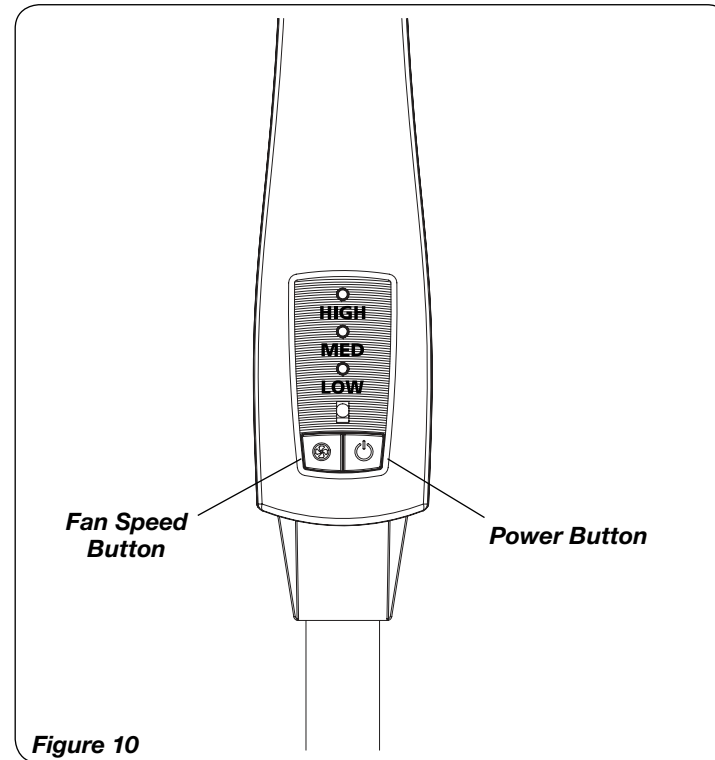
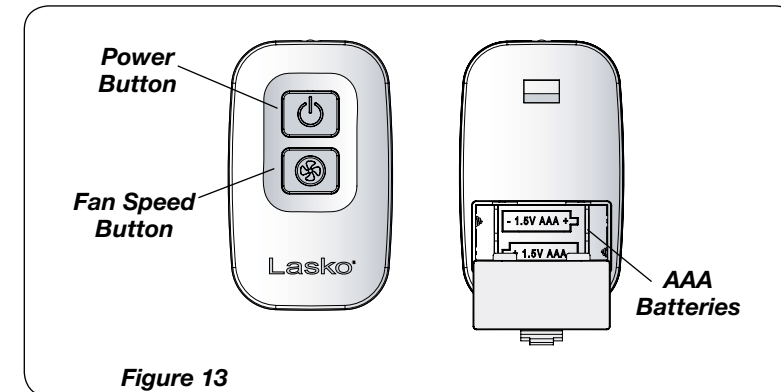

Figure 10
Figure 13
This Fan may be operated by the Manual Controls located on front of the unit (as shown in *Figure 10*) or by the Remote Control (shown in *Figure 13*).
1. Install batteries (not supplied) as shown in *Figure 13*. The battery is type "AAA".